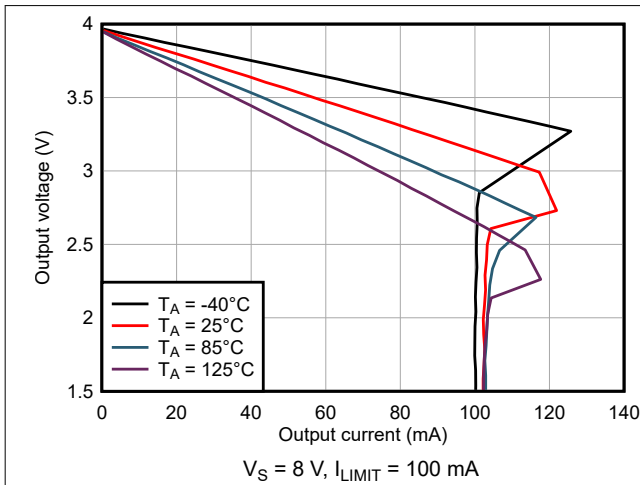
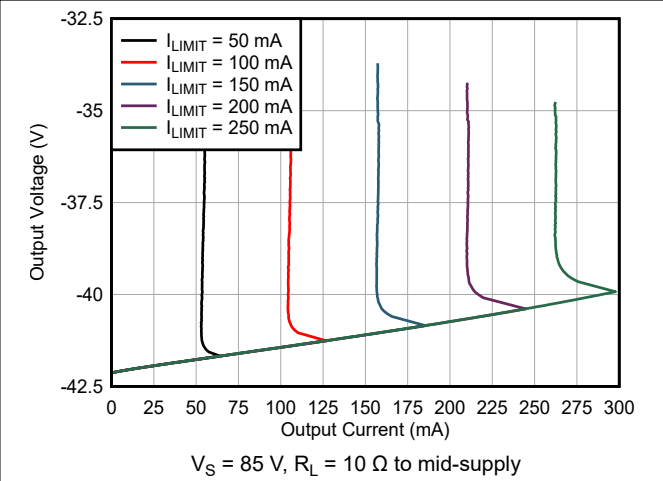

Figure 6-19. Output Voltage vs Output Sourcing Current
Figure 6-34. Output Voltage vs Output Sinking Current
(3) Proper output swing headroom is necessary to maintain current limit accuracy; see Figure 6-19 to Figure 6-34.